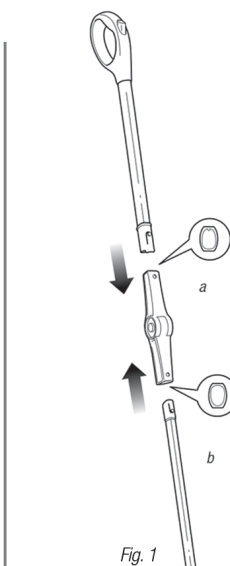

Fig. 1
- 1 Slide the upper pole (the tube with the handle) into the end of the Shark® Backsaver™ joint that has a small notch in it (a). Then slide the lower pole into the other end of the joint (b). Push it in until it clicks into place. (fig. 1)